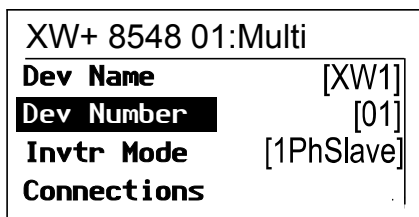

Figure 3-10 Setting a Device Number
2. On the **Multi-Unit Config** menu, select **Dev Number**. See Figure 3-10.